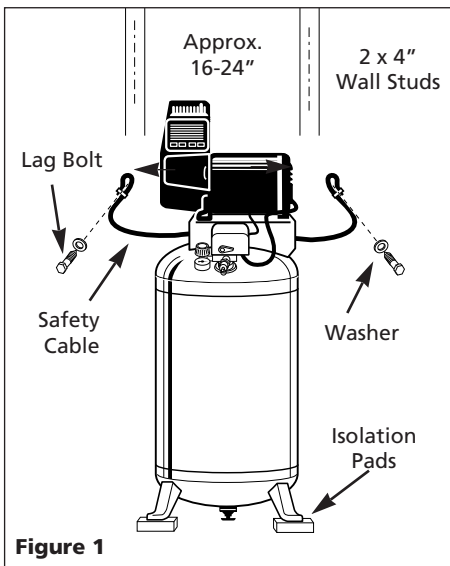

Figure 1
2. Position the cable through the baseplate as shown in Figure 1.